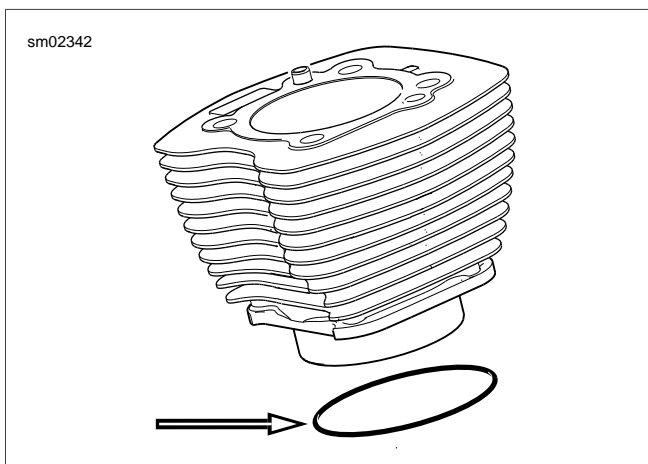

Figure 3-29. O-ring Seal For Cylinder
2. See Figure 3-29. Apply a very thin film of clean H-D 20W50 engine oil to **new** o-ring seal for the bottom of the cylinder liner. Install **new** o-ring seal.